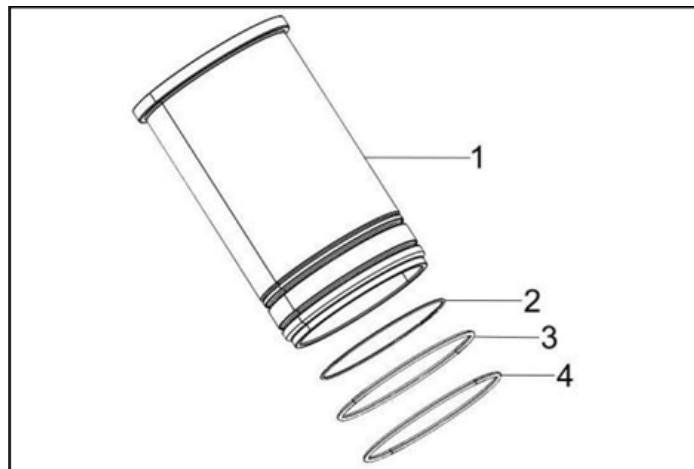

Figure 130.
1. Equip the liner with new seals (Figure 130) coated with grease or clean oil.